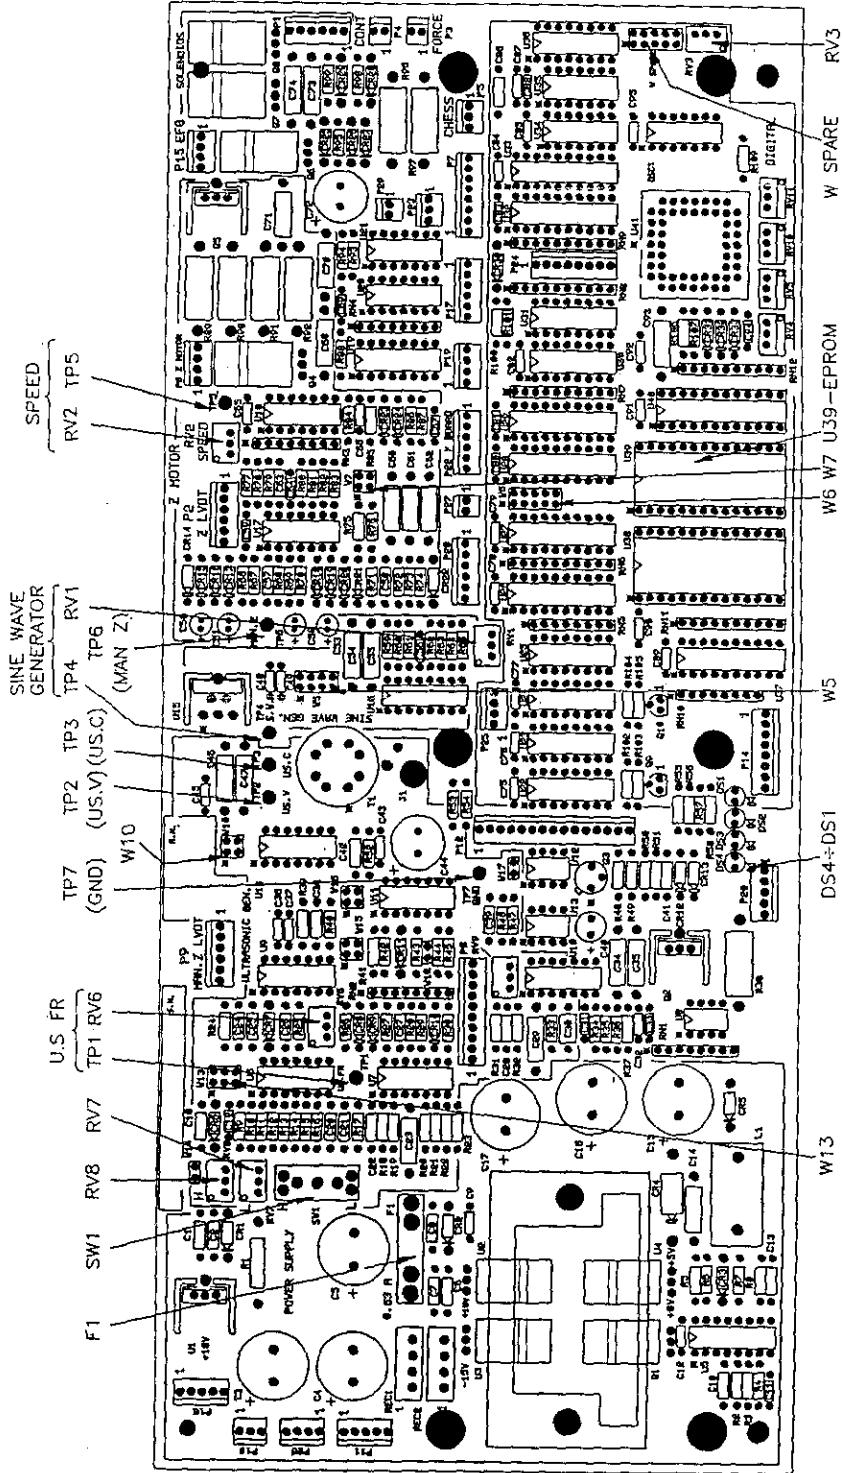

Figure 8-5 The 4125-4200-000 Logic Board
The Logic Board contains a number of adjustment points, these are summarized in Table 8-3. The physical locations of these are shown in Figure 8-5.
The Logic Board provides test points for checking various signals of the board. These are summarized in Table 8-4. The locations of the test points are shown in Figure 8.5.
- Step 3 If the voltage does not have the value given in Step 2, adjust the voltage to this value with the trimmer RV1 on the Logic Board (see Figure 8-5).
- Step 2 Connect the counter leads to TP1 (US. FR) and TP7 (GND) (see Figure 8-5).
- Step 2 Set switch SW1 (see Figure 8-5) to LOW.